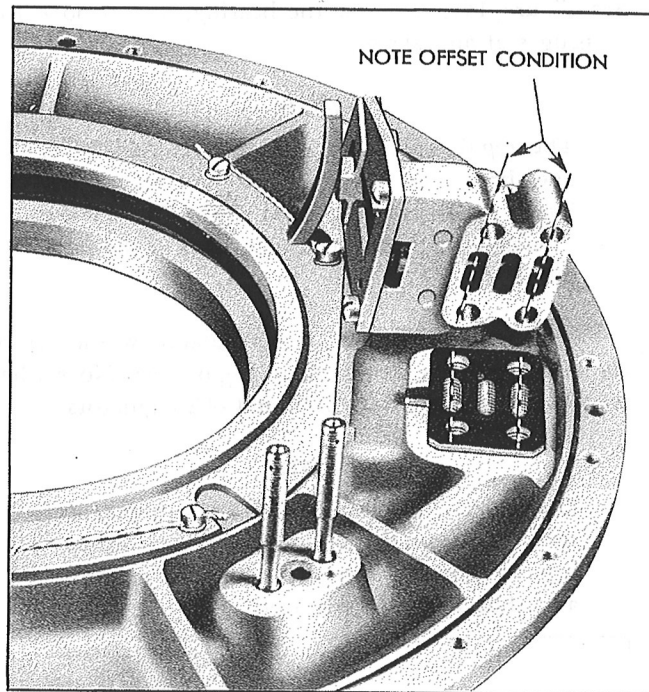

Figure 143—Removal of the Governor
Step 21.—Lift off the governor, filter gasket, spacer plate, and spacer plate gasket from the regulator, as shown in Figure 143.
Step 7.—Install the governor filter gasket. The filter gasket is convex and the convex screen fits into the governor ports. To avoid damaging the screen, make sure that the filter gasket is installed correctly so that the attaching screw holes and the oil passages in the gasket mate properly with the corresponding holes in the governor pad of the regulator. See Figure 143.